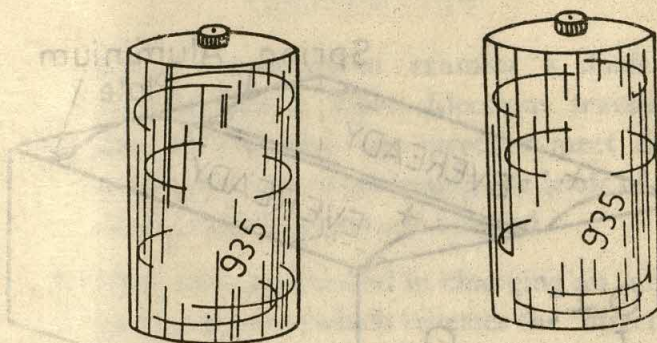

FIG. 3.4.1
2. Take two dry-cells 1.5 V each. These are usually available in three different sizes numbered as 915, 935 or 950. Fig 3.4.1. Leak-proof cells are numbered as 1015, 1035 and 1050. On one side, you see the brass metallic cap sealed in the centre which is positive of the cell while on the other side a flat metallic surface which is the negative of the cell. You can obtain the output of the cell from these two points i. e., cap positive and the bottom flat surface negative.